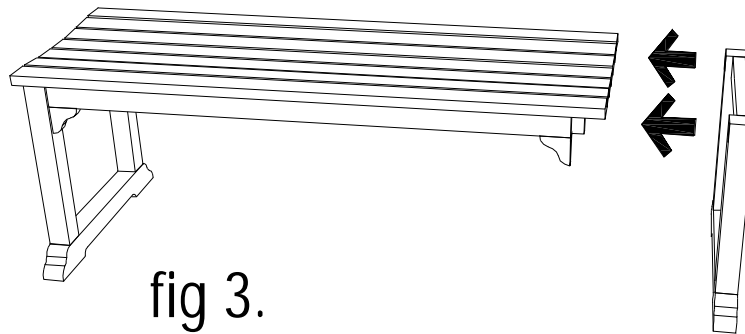

fig 3.
4. Insert the other leg. ( Fig. 3 )